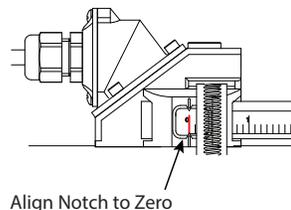

Figure 14: Align to zero
8. Place the first transducer at the zero point on the scale. Slide the clamp over the transducer. Adjust the clamp and transducer so the notch in the clamp aligns with the zero on the scale. See Figure 14.